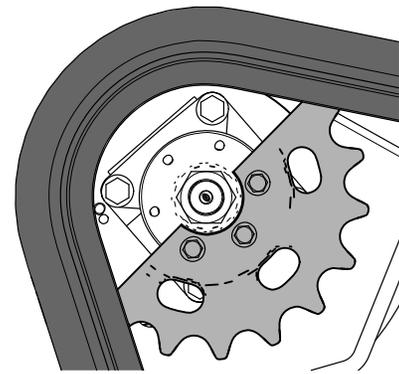

**Figure 62**
- Apply thread-locking compound to the bolts of the drive sprocket half that you removed and install the sprocket half (Figure 62). Torque the bolts to 95 to 115 N·m (70 to 85 ft-lb).